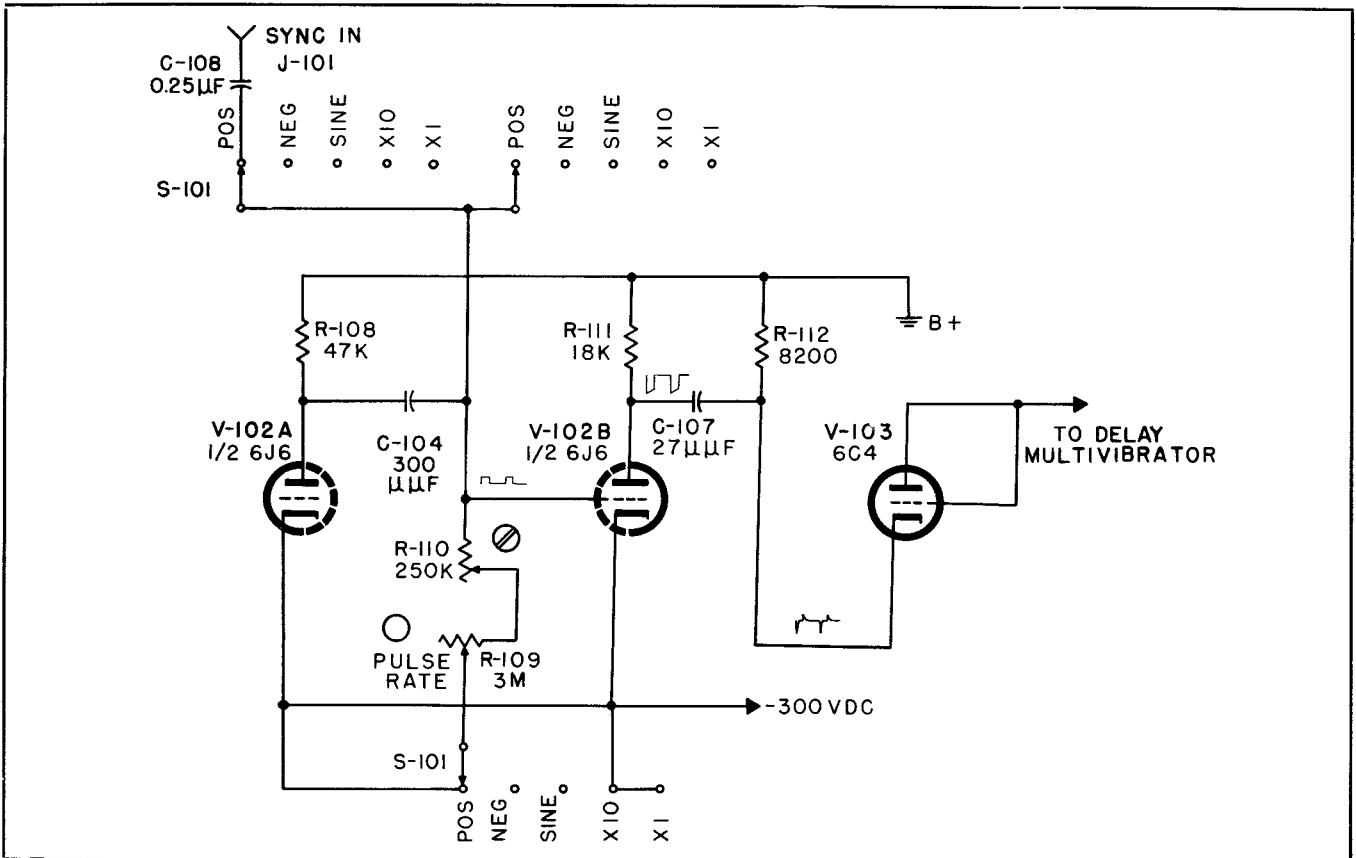

Figure 3-11. External Positive Pulse Sync. Circuit
(4) EXTERNAL POSITIVE PULSES.—When the external synchronizing voltage is a positive pulse (figure 3-11), the pulse is applied to the grid of V-102B through S-101. The grid of V-102B is returned to the cathode, although grid current flowing through the large grid resist-